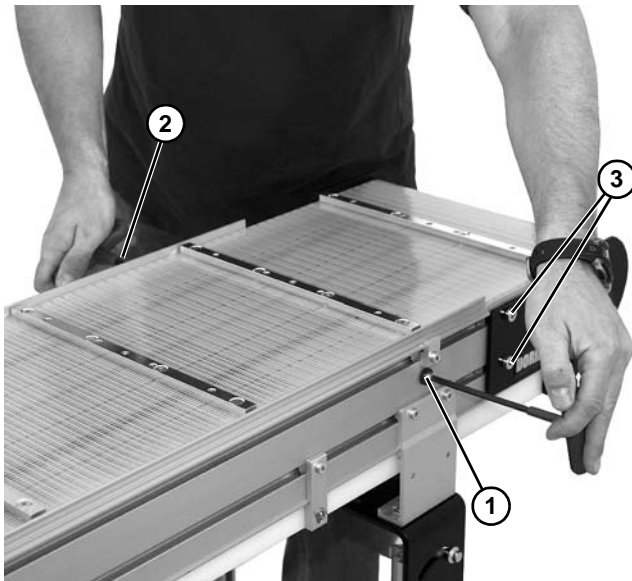

Figure 29
1. Ensure tensioning racks are extended and touching the idler pulley headplates: loosen the pinion locking screw (**Figure 29, item 1**) and rotate the pinion torque screw (**Figure 29, item 2**) clockwise until contact with the head plate is made, then tighten the pinion locking screw (**Figure 29, item 1**) to 69 in-lbs (7.8 N-m).
2. On the side of conveyor to be adjusted, loosen two (2) tail clamp screws (**Figure 29, item 3**).
4. Re-tighten the head plate fastening screws (**Figure 29, item 3**) with a 8 mm hex-key wrench to 146 in-lb (16.5 Nm).